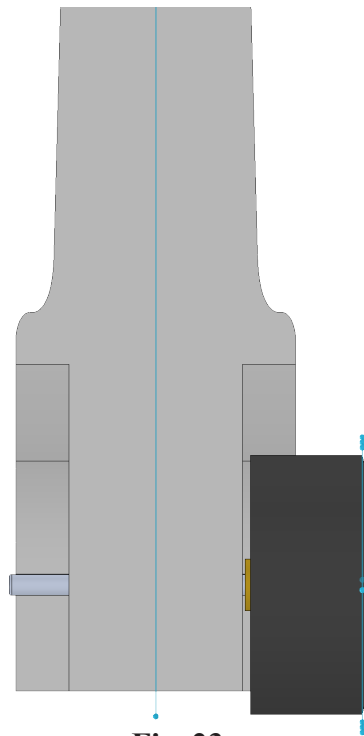
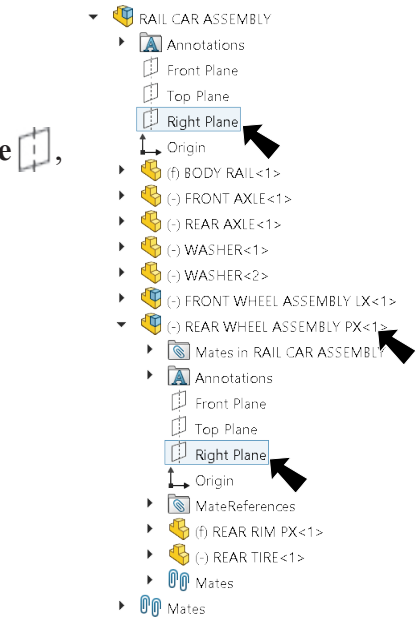

Fig. 23
Fig. 21
Step 1. Click **Right Plane** , **Fig. 21**.
Step 2. Expand **REAR WHEEL ASSEMBLY** and click **Right Plane** , **Fig. 21**.
Step 3. Click **Distance**  in Mate pop-up, **Fig. 22**. Set **distance to 31** and press ENTER. The Washer should sit next to the body, **Fig. 23**. If positioned in opposite direction, click **Flip Dimension**  in the Mate pop-up, **Fig. 21**. Click Add/Finish Mate  to add Distance mate.